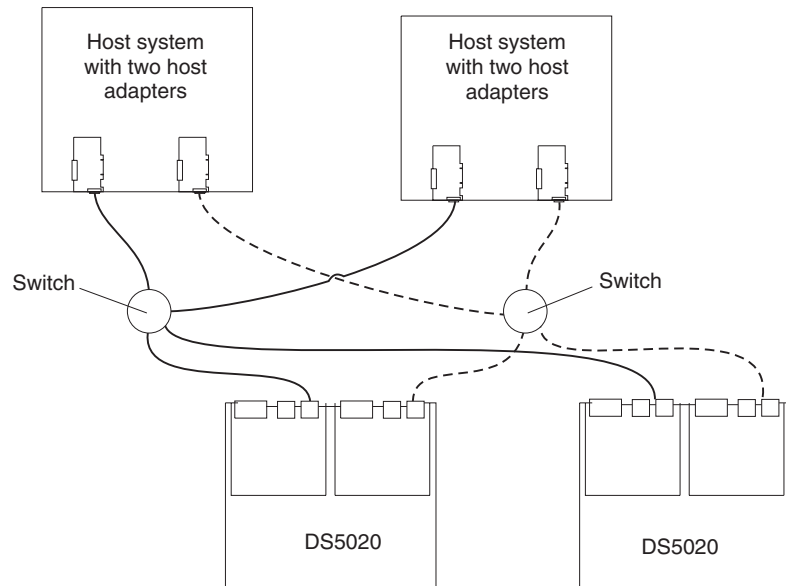

Figure 59. Example of two storage subsystems in a dual SAN environment
- Two storage subsystems in a dual SAN fabric configuration, as shown in Figure 59 on page 87
In Figure 59 on page 87, the Fibre Channel switches are not connected together. Each switch forms its own SAN fabric.